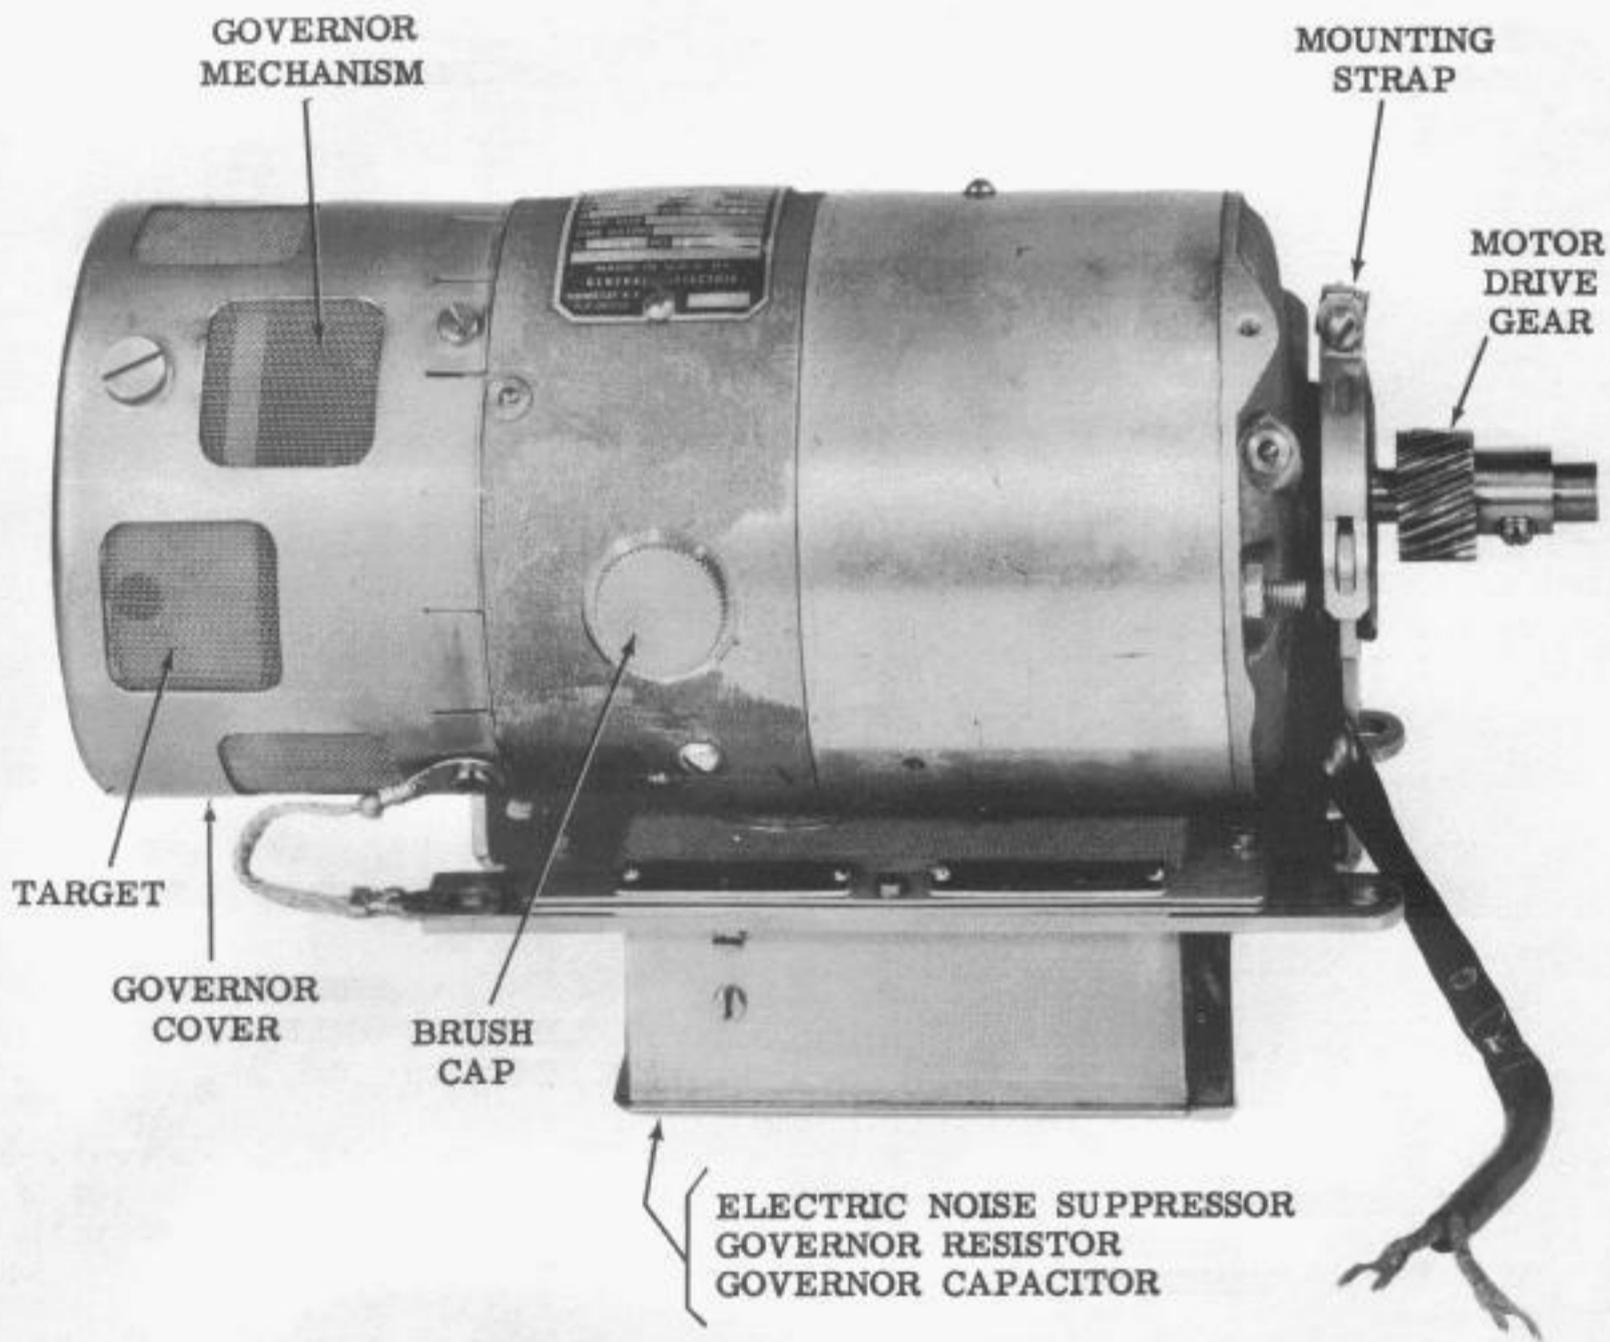

Figure 2 - 28 Series (Governed) Motor Unit
1.03 The series (governed) type motor units (Fig. 2) are available in 1/20 and 1/15 horsepower ratings. These motor units may be operated from regulated or unregulated,
SERIES (GOVERNED) MOTOR UNITS (Fig. 2)
SERIES (GOVERNED) MOTOR UNITS (Figs. 2 and 4)